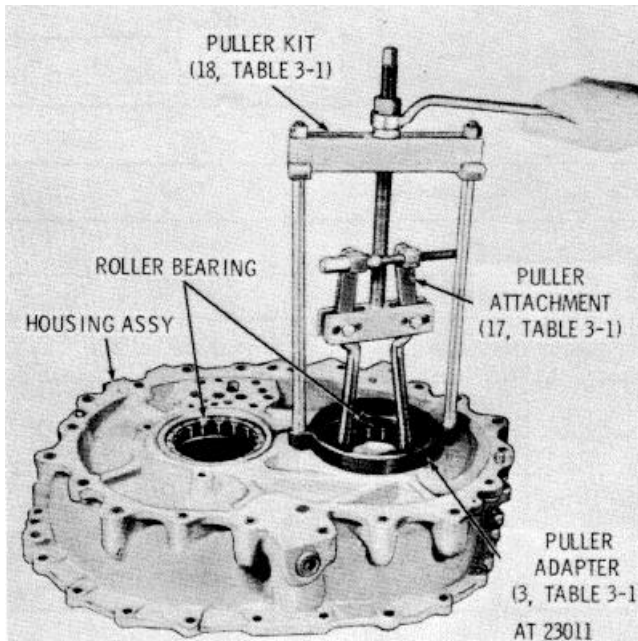

Figure 7-45. Removing roller bearing from right output housing assembly.
(6) Do not remove plug (80) unless replacement is necessary or to aid in the cleaning of the output Housing. If necessary, remove the plug.
(7) Do not remove roll pin (81) unless replacement is necessary. If necessary, remove the pin.
(8) Flatten tab lockwasher (55) and remove retaining bolt (54), washer (55) and roller bearing retaining plate (56). Remove three output clutch sleeve bolts (57) and three flat washers (58).
(9) Remove output clutch sleeve assembly (88) with two sealrings (91). Remove sealrings (91) from sleeve assembly (88).
(10) Do not remove reduction gear roller bearings (21 and 36) from housing (63) unless replacement is necessary. If necessary, use puller adapter (3, table 3-1), puller attachment (17, table 3-1), and puller kit (18, table 3-1) to remove the roller bearings. Refer to figure 7-45.